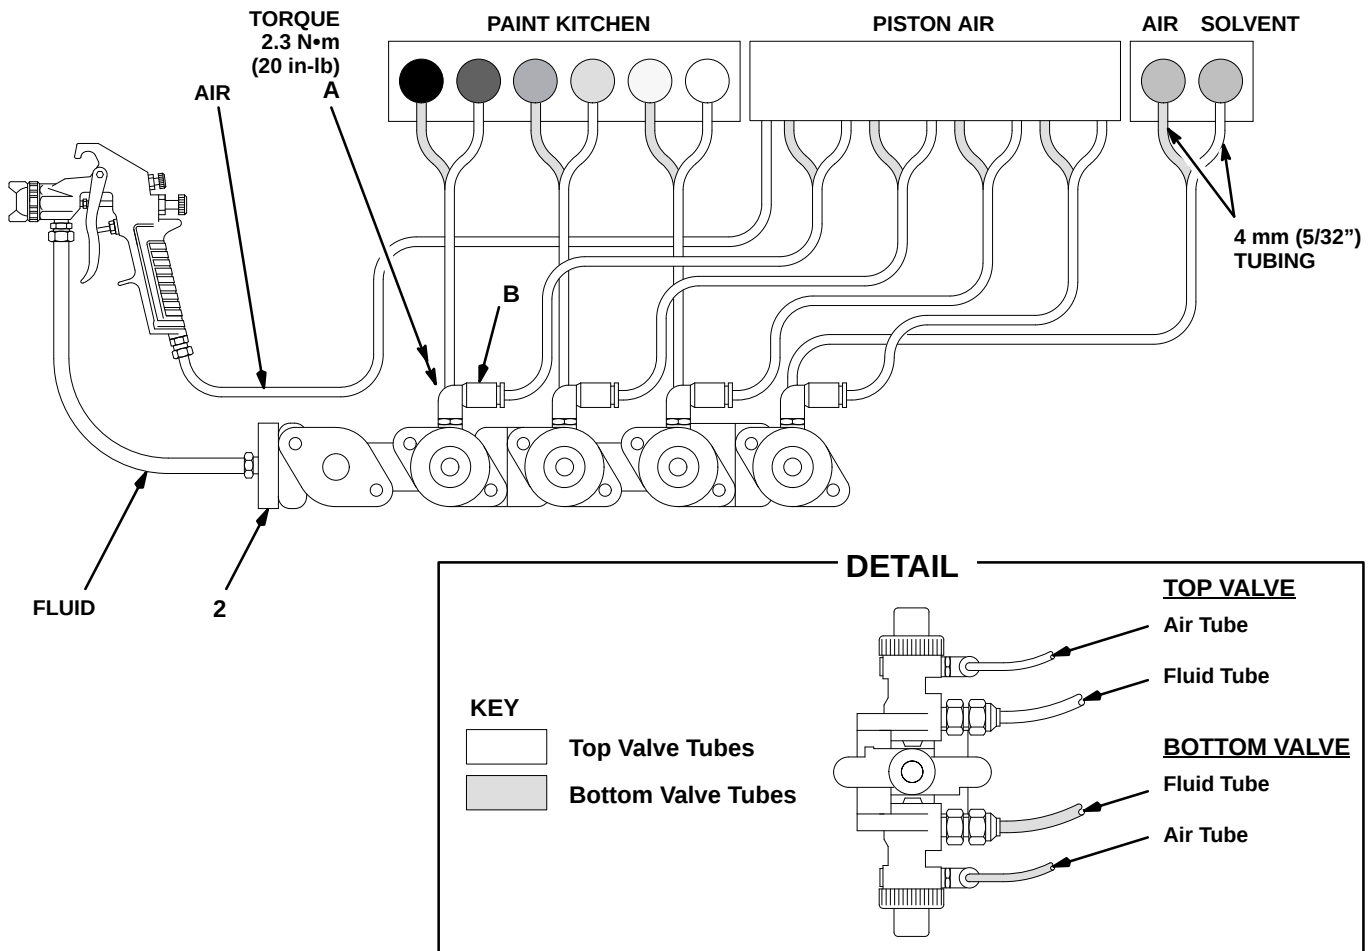

Fig 1
6. Connect a 4 mm (5/32 in.) O.D. tube to each piston air inlet fitting (B). See Fig 1. See ACCESSORIES, on page 4, to order the tubing and air inlet fitting.
7. Install a suitable adapter (A) in the 1/8 npt fluid inlet of each valve. See ACCESSORIES to order an adapter. Apply thread sealant to the adapter and torque it to 2.3 N•m (20 in-lb).
Connect the paint supply hose to the adapter (A). See Fig 1.
8. Connect the paint hoses from the gun to the front block (2). The threads on the front block are 1/4-18.6 compound thread, which fits both 1/4-18 npsm or 1/4-19 BSP female connectors.